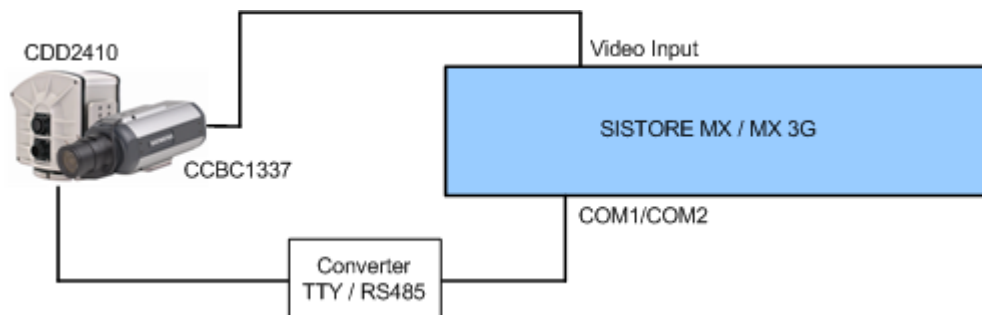

Fig. 20 Pan/tilt drive CDD2410 system overview
1. Connect the pan-and-tilt unit to the SISTORE (see Fig. 20).
2. Connect the camera to the SISTORE (see Fig. 20).